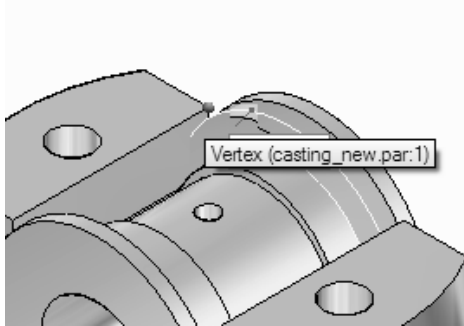

Figure 12-50 *Modifying the outer cylinders of the **Brasses***
- Modify the width of the Brasses, refer to Figures 12-50 and 12-51.
3. Click on the primary axis of the steering wheel and move the face toward the planar face of the base component. Next, select the end keypoint of the base component; the inner face of the outer cylinder will be in plane with the base component, as shown in Figure 12-50.